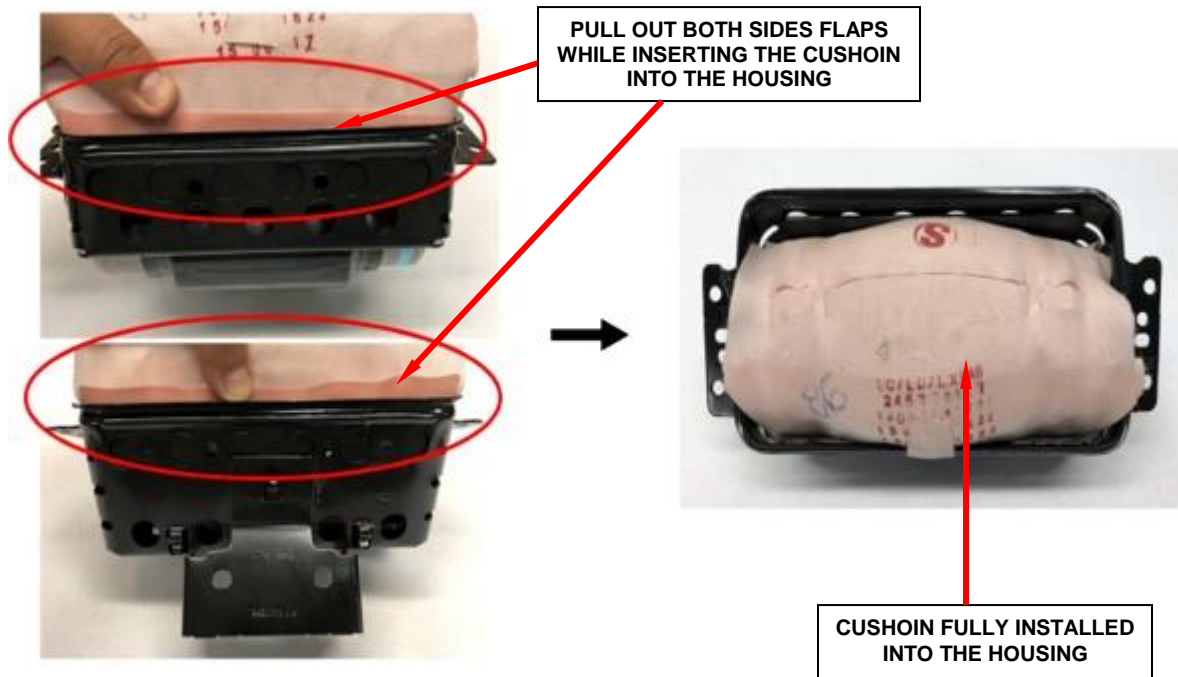

Figure 46 – Side Flaps Must Be Held Out
i. Insert the cushion, pulling out both side flaps (Figure 46).